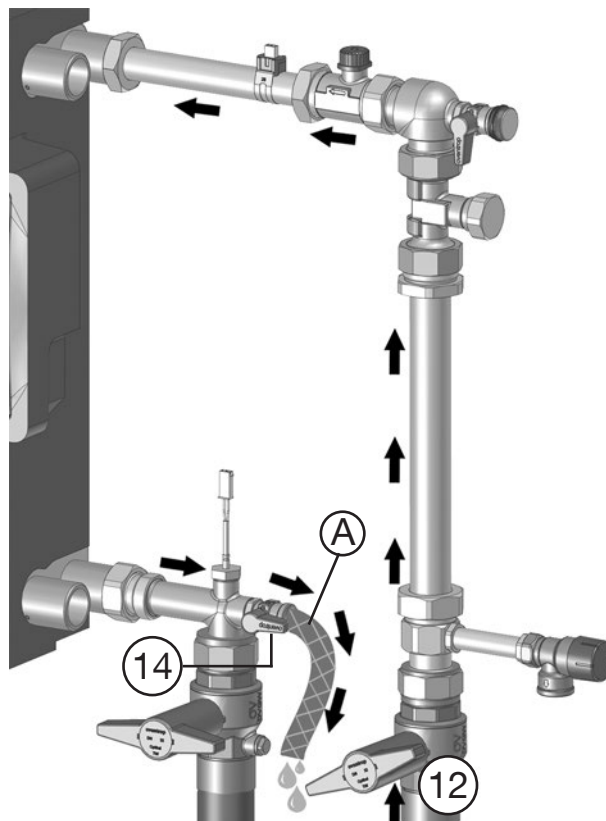

Fig. 5.4: Start the reflushing process with potable water
11. Connect the **drainage hose (A)** for potable water to the **lower fill and drain ball valve (14)** (Fig. 5.4).
12. Open the isolating ball valve (12) slightly to start the flushing process with potable water.
13. Close the fill and drain ball valve (14) after at least **one minute**.
14. Remove the drainage hose (A).